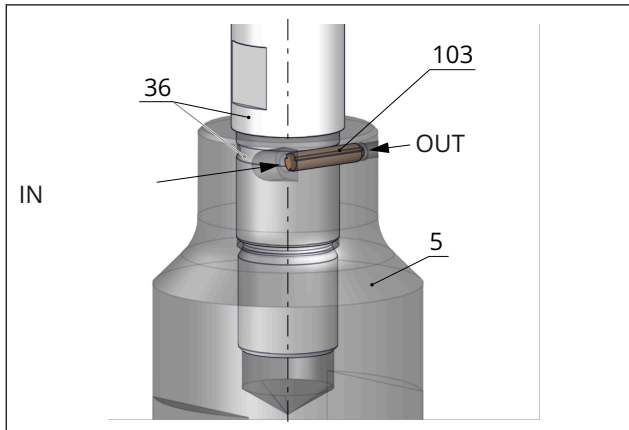

Fig. 28: Locking pin to secure plug and plug stem or piston and piston stem (schematic drawing)
The plug and plug stem are fastened together. To prevent the plug from becoming unintentionally detached from the plug stem, the connection is additionally secured by a tangentially inserted pin (see Fig. 28). To replace the plug, proceed as follows:
1. Firmly clamp the plug (5) into a vise.
2. Use a suitable tool (mandrel) to drive the locking pin (103) out of the plug in the "OUT" direction (see Fig. 28).
3. Unscrew the plug stem (36) from the plug (5) using a suitable tool.
5. Firmly clamp the new plug (5) into a vise using protective jaws. Make sure that the plug is not damaged by the vise.
6. Screw the plug stem (36) into the plug or piston (5) and tighten using a suitable tool. Observe tightening torque.